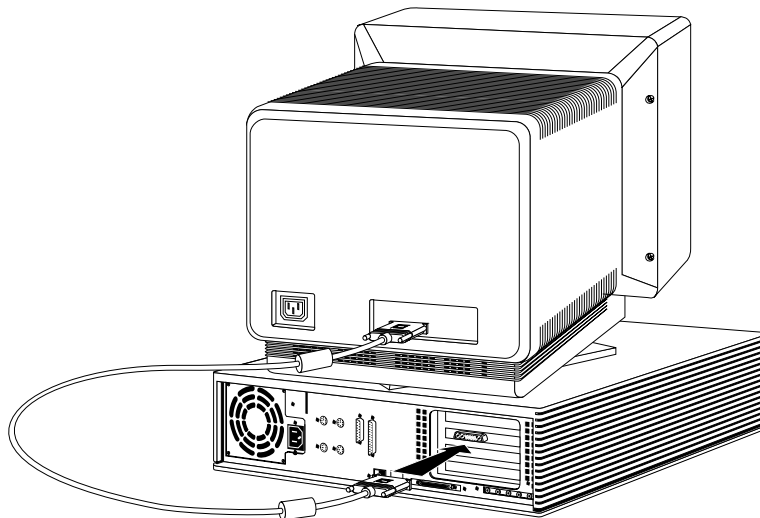

Figure 2-9 Connecting the Monitor Cable to the Indigo² Chassis
- Connect one end of the cable to the connector on the back of the monitor, as shown in Figure 2-9. Screw in the thumbscrews on both sides of the connector.
- Connect the other end of the cable to the connector with the monitor icon on the back of the Indigo² chassis, as shown in Figure 2-9. Screw in the thumbscrews on both sides of the connector.